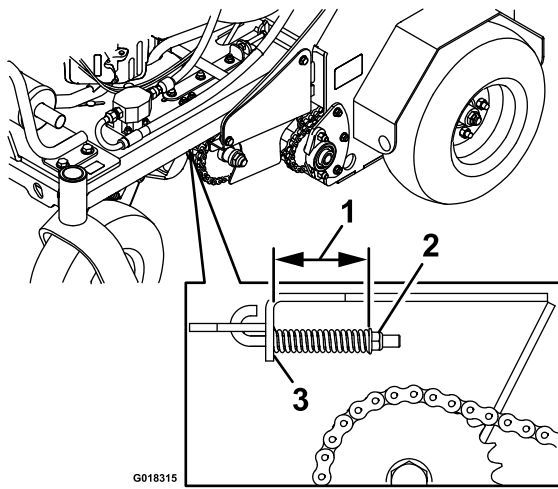

Figure 18
2. Measure the spring length from inside the idler bracket to the inside of the flanged nut as shown in Figure 18.
3. Measure the spring length from inside the idler bracket to the inside of the flanged nut as shown in Figure 18. Set the spring length to 2 3/8 inches (60 mm).